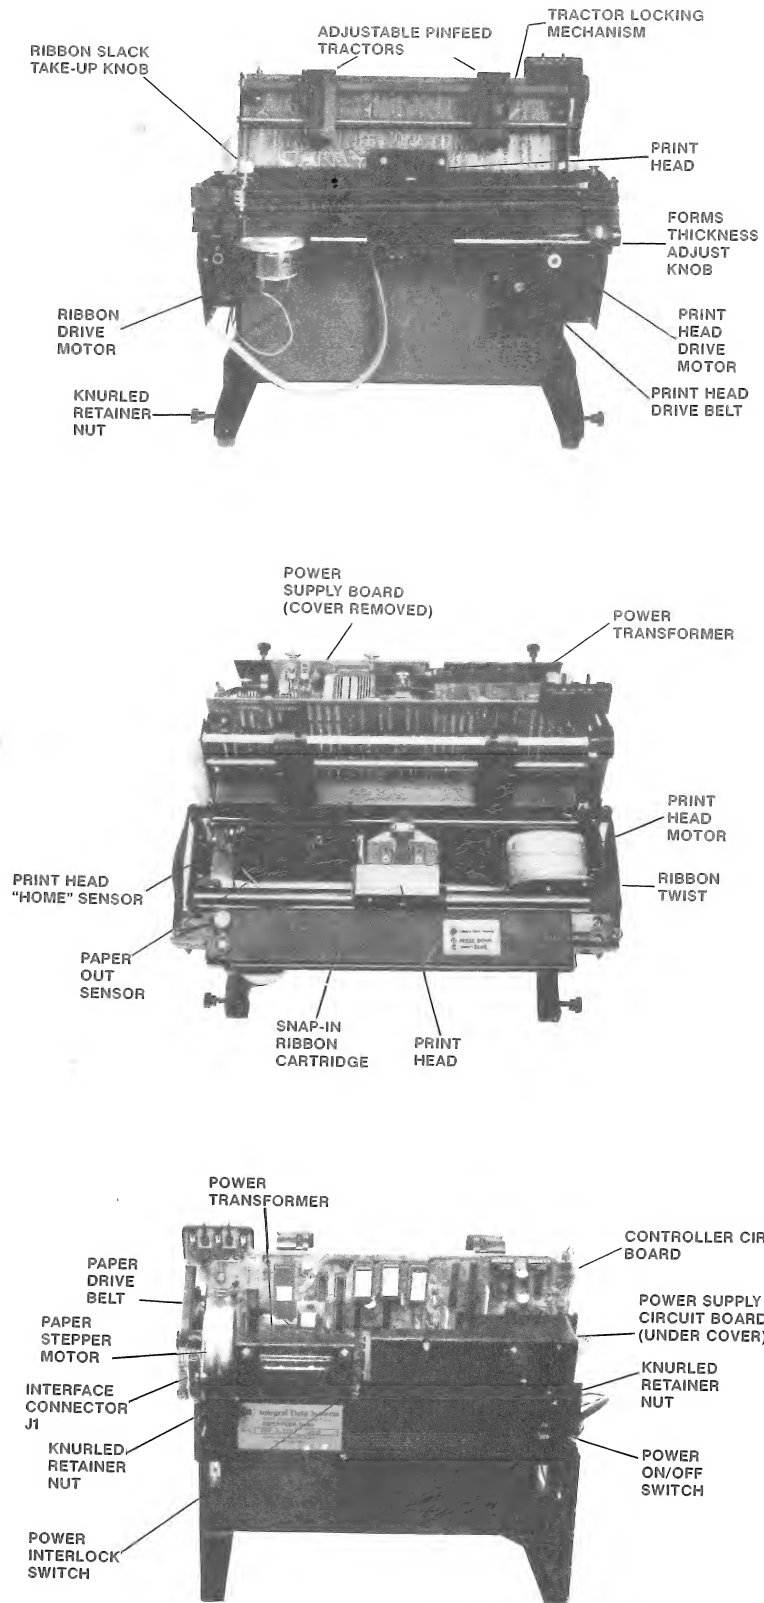
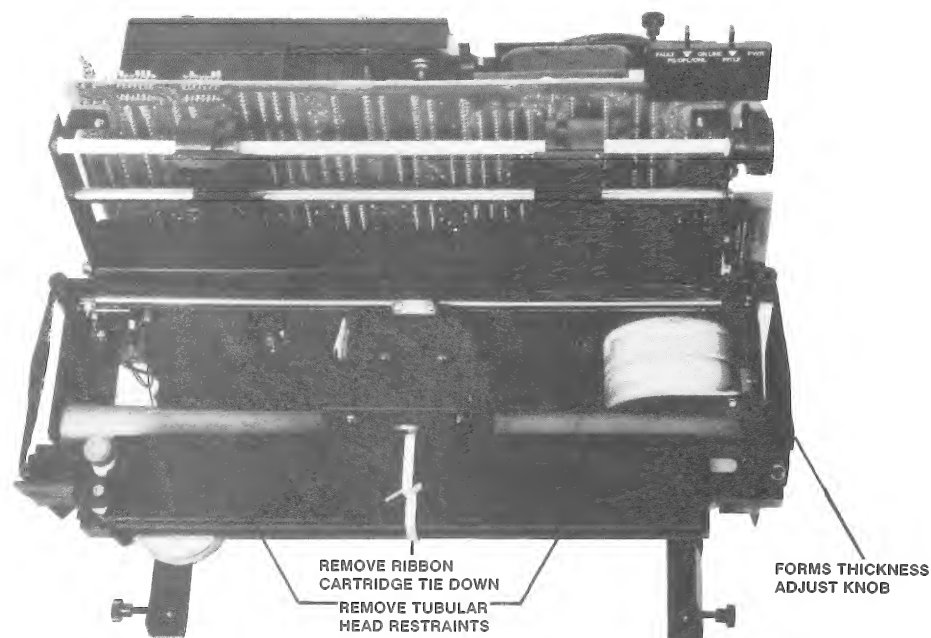

Figure 1-2
Figure 2-1
Five major modules function in conjunction with appropriate interface control signals to perform all printer operations. A general description of each module is provided in the following paragraphs. Figure 1-2 shows the locations of the modules within the printer.
2.2.1 Unpacking (See Figure 2-1)
After unpacking the printer from its shipping carton and plastic bag, remove the cardboard base from the bottom of the printer. Loosen the four knurled retainer nuts which secure the printer top cover (see Figure 1-2), and carefully lift off the cover. Remove the two tubular head restraints (see Figure 2-1), one on each side of the head, that restrain the head during shipping. Also remove the plastic tie-down that holds the ribbon cartridge in place.
## 2.2.2 Repacking (See Figure 2-1)
Selection of parallel or serial interface configuration strapping to meet the user's particular installation is accomplished by installing jumpers into a dip strapping platform (Z2) on the controller circuit board, next to interface connector J1 (see Figures 1-2 and 2-2). To do this, the user must:
- Locate the strapping platform (see Figures 1-2 and 2-2) on the controller circuit board.
The IDS-460 Printer is connected to the host computer via a parallel or serial interface cable. The cable connects to connector J1 at the left rear of the printer, under the cover (see Figures 1-2 and 2-2).